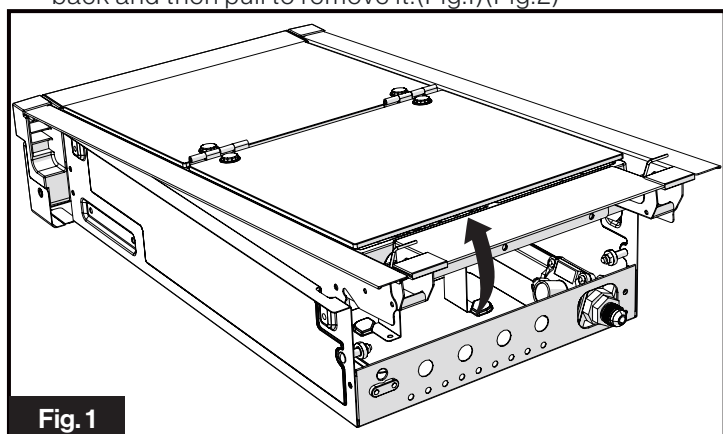
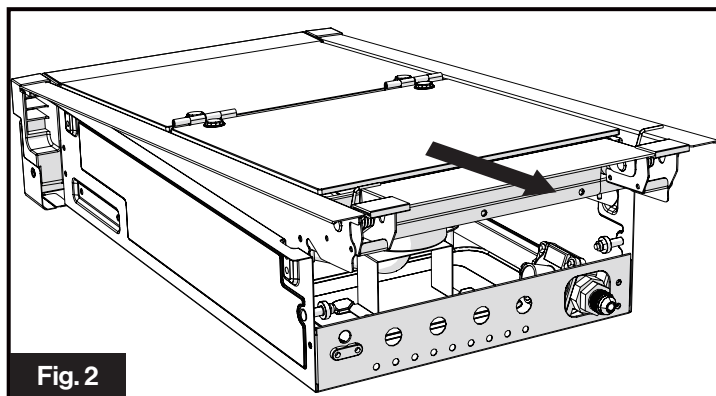

Fig. 1
Fig. 2
2. Lift the top glass cover assembly at the rear side, push it back and then pull to remove it.(Fig.1)(Fig.2)